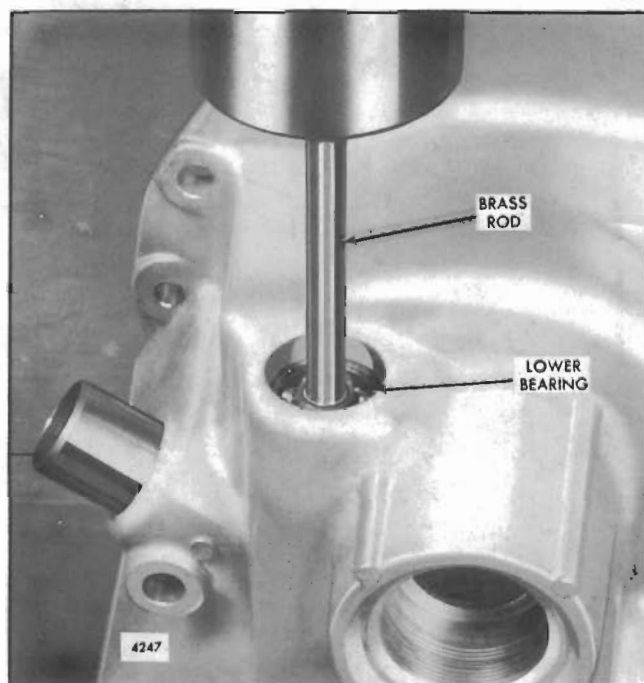

Fig. 13 - Removing Operating Shaft from Operating Shaft Lower Bearing
- f. Support the governor housing bottom side up on the bed of an arbor press, with the two dowel pins in the top of the housing between the two steel supports. Refer to Fig. 13 and place a small brass rod on the end of the operating shaft and press the shaft out of the bearing.